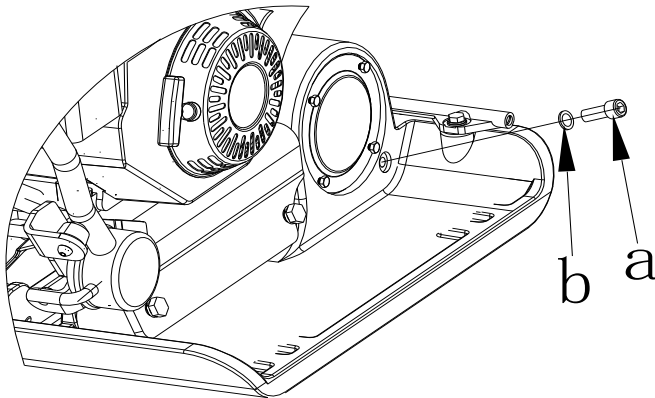

Fig 4
5.4 Exciter Lubrication (Fig.4)